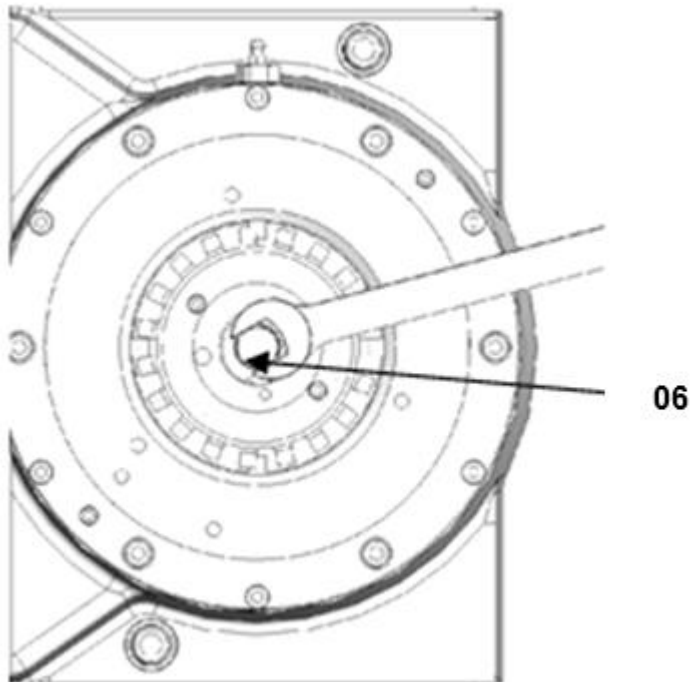

Fig. 5.5
3. Remove the locking washer **15** to free the wear take up screw **06** Fig. 5.5 see chapter 5.3.